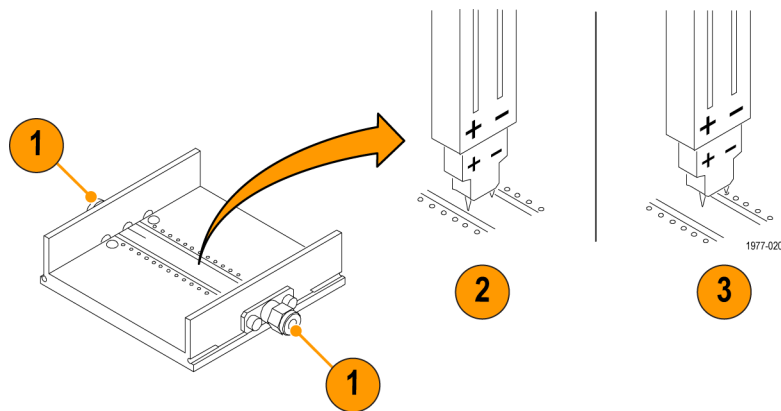

Figure 7: Probe calibration fixture connections
The Probe Calibration Fixture, Tektronix part number 067-0419-xx, provides a means to check the rise time specification of the probe. (See Figure 7.) A probe positioner can be helpful to keep the probe in contact with the fixture.
17. Probe the DM pins on the Probe Calibration Fixture. A probe positioner may be helpful. (See Figure 7 on page 13.)